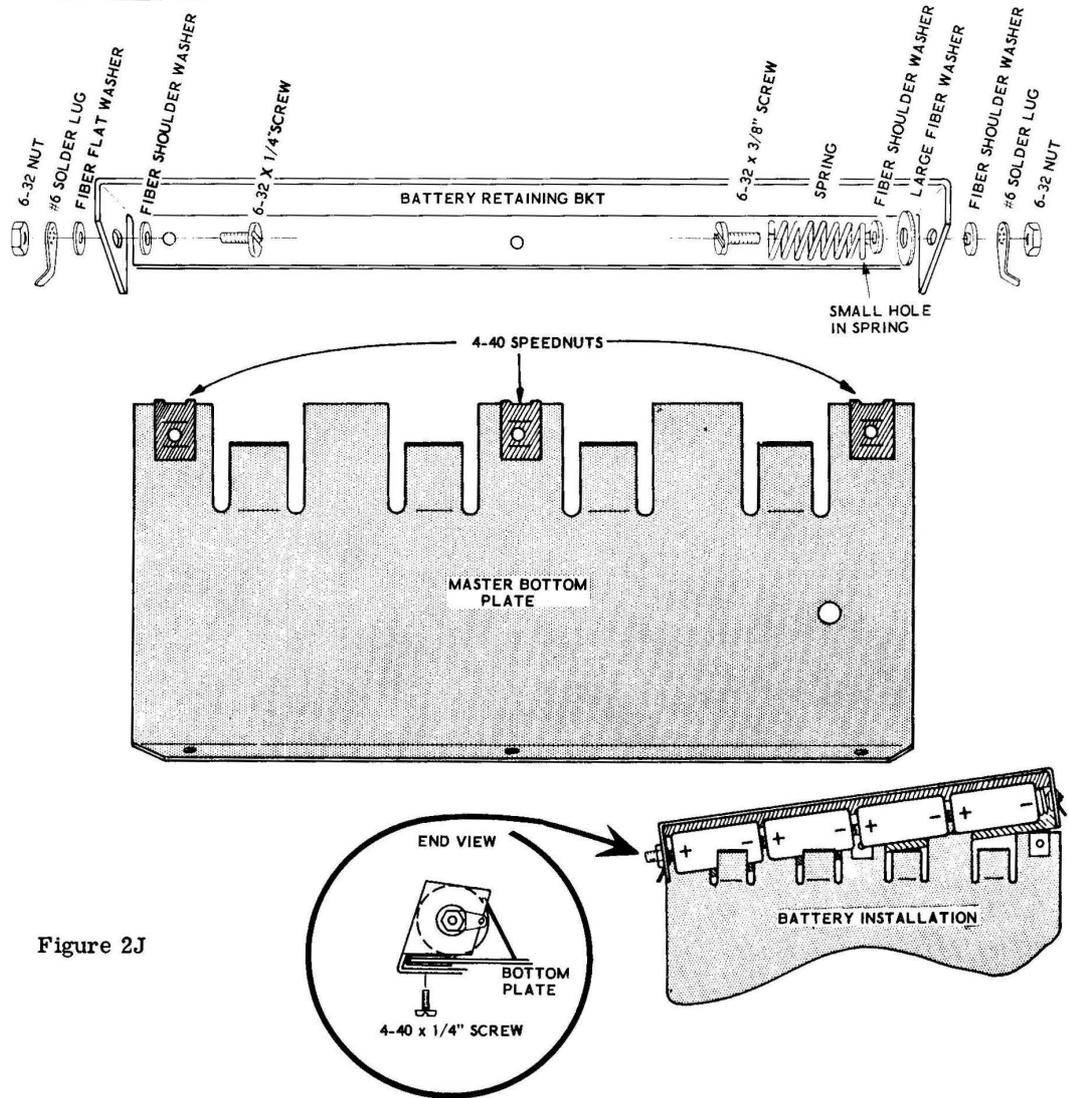

Figure 2J
Refer to Figure 2J for the following steps.
- () Install a 6-32 x 1/4" screw through a fiber shoulder washer (from the flat side). Install this screw and the shoulder of the fiber washer through the hole at the left end (with the bracket facing as shown in Figure 2J) of the battery retaining bracket. Fasten the assembly in place by placing a fiber flat washer, a #6 solder lug, and a 6-32 nut on the screw on the outside of the retaining bracket.
- () Install another fiber shoulder washer over this screw on the other side of the bracket. Put the shoulder of the washer in the hole in the bracket, and fasten the assembly in place with a #6 solder lug and a 6-32 nut. Place the solder lug as it is shown in Figure 2J.
- () Fasten one end of the battery retaining bracket to the master bottom plate as it is shown in the inset drawing of Figure 2J. Use a 4-40 x 1/4" screw through from the bottom of the retaining bracket into the 4-40 speednut on the bottom plate.